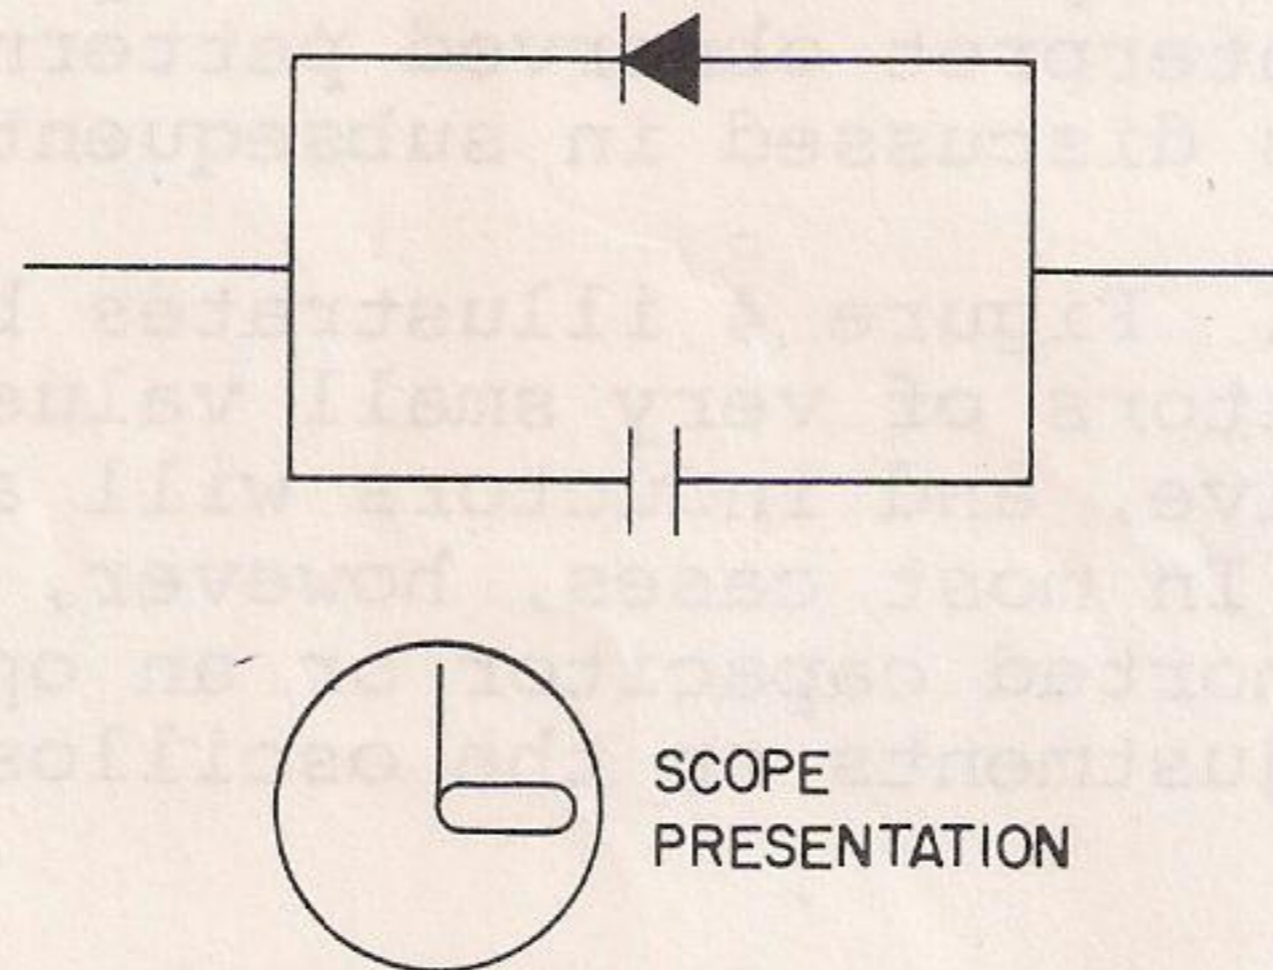

Figure 6. Diode Check
e. Diode Check. If the diode and capacitor pictured in figure 6 were under test, the display shown in that figure would be the result. The oscilloscope presents both a Lissajous (Xc reactance) and a 90-degree junction step, informing that the components are neither shorted nor open.